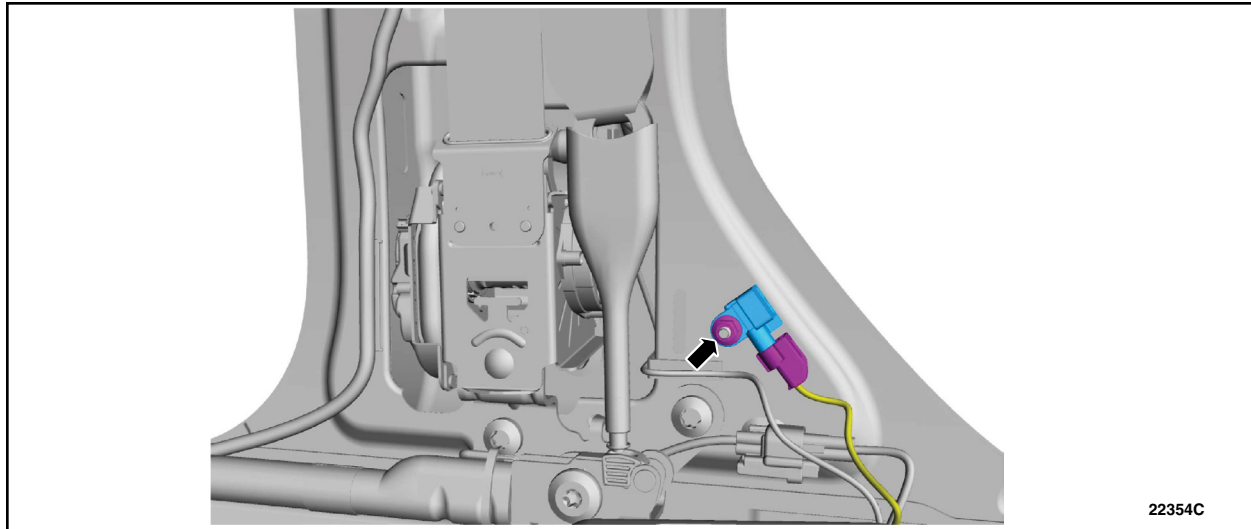

FIGURE 4
3. Install the *new* retaining nut. See Figure 4.